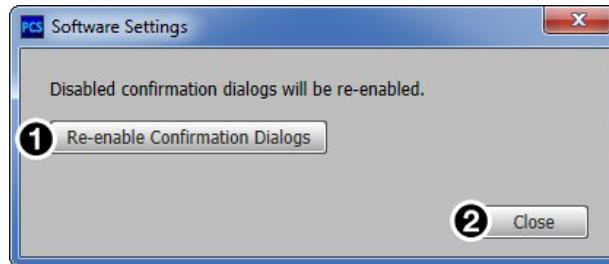

Figure 36. Software Settings Dialog Box
2. Click the **Re-enable Confirmation Dialogs** button (see figure 36, 1). The dialog box closes and the reset is complete.